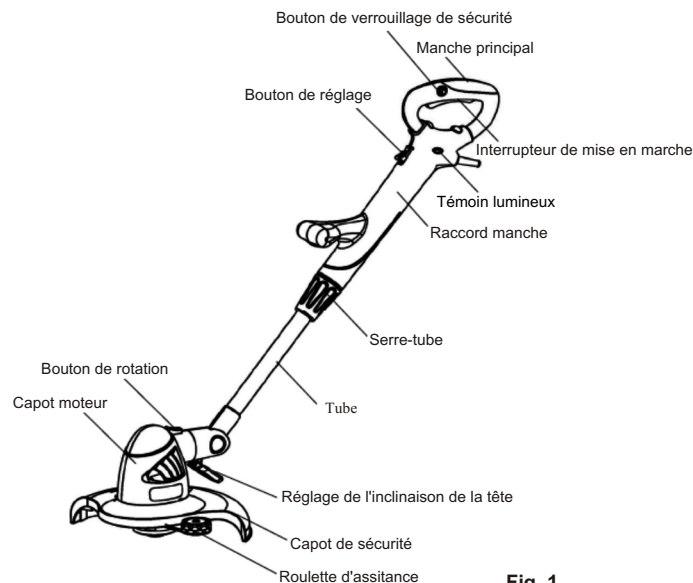

Fig. 1
2.IDENTIFICATION GENERALE (Fig. 1)